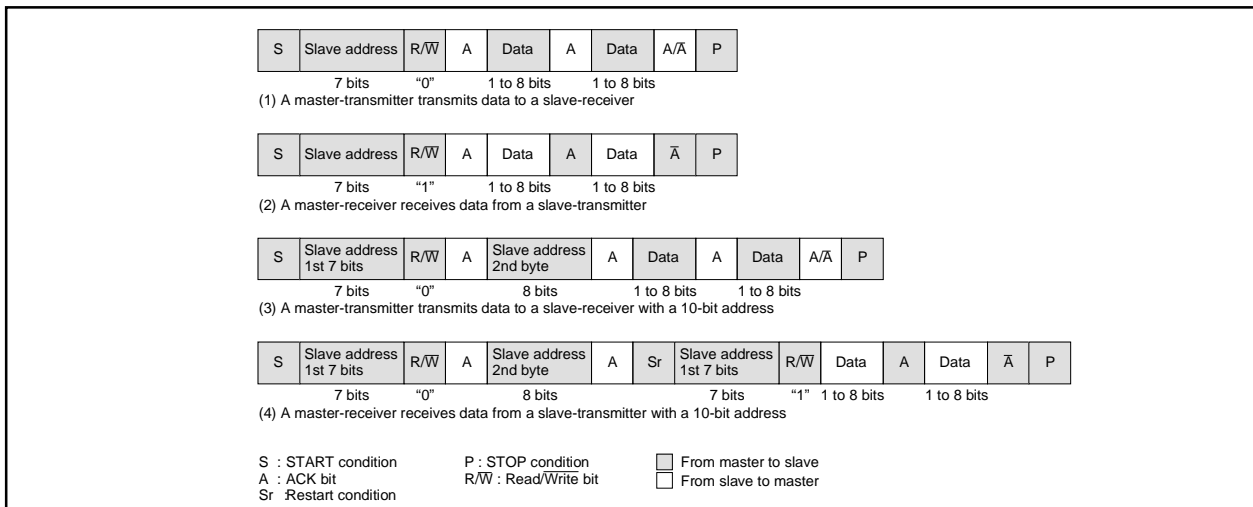

Fig. 2.11.45 Address data communication format
To meet the 7-bit addressing format, set the 10BIT SAD bit of the I²Ci control register to "0." The first 7-bit address data transmitted from the master is compared with the high-order 7-bit slave address stored in the I²Ci address register. At the time of this comparison, address comparison of the RBW bit of the I²Ci address register is not made. For the data transmission format when the 7-bit addressing format is selected, refer to Figure 2.11.45, (1) and (2).
When the first-byte address data matches the slave address, the AAS bit of the I²Ci status register is set to "1." After the second-byte address data is stored into the I²Ci data shift register, make an address comparison between the second-byte data and the slave address by software. When the address data of the 2nd bytes matches the slave address, set the RBW bit of the I²Ci address register to "1" by software. This processing can match the 7-bit slave address and R/ \bar{W} data, which are received after a RESTART condition is detected, with the value of the I²Ci address register. For the data transmission format when the 10-bit addressing format is selected, refer to Figure 2.11.45, (3) and (4).
(11) Example of Master Transmission